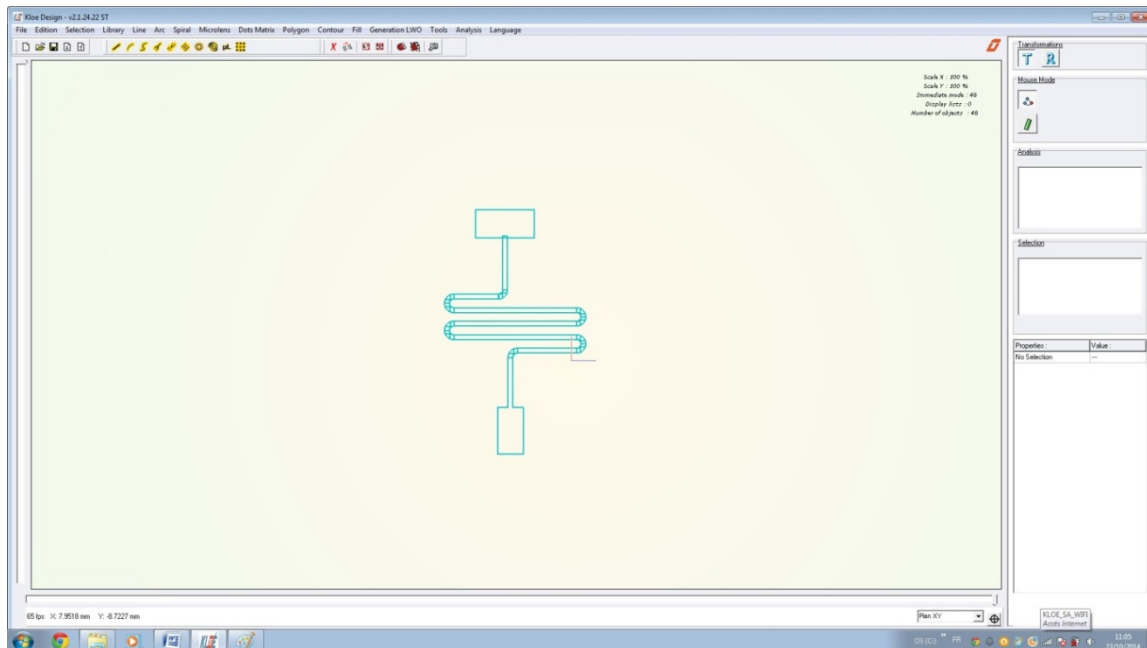

Fig 3 : Gds pattern displayed after importation
- Then the gds pattern appears, exactly as the file has been designed, with all the polygons created in this pattern (Fig 3).